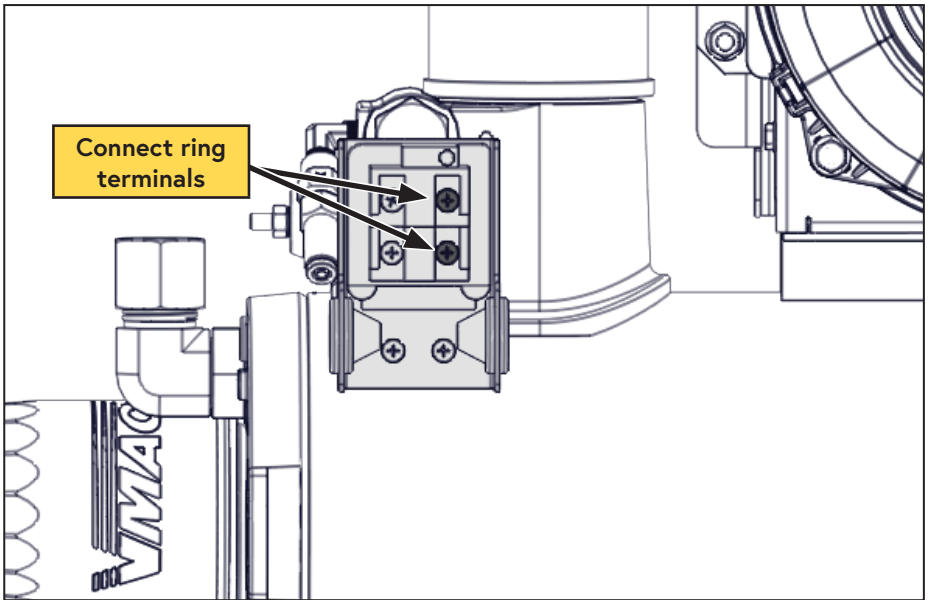

Figure 61 — Connect pressure switch
- Connect the ring terminals from the white wire running from CN3 of the control module, and the grey wire running from the pressure switch harness to the pressure switch on the WHASP Tank (these are not polarity dependent) (Figure 61).